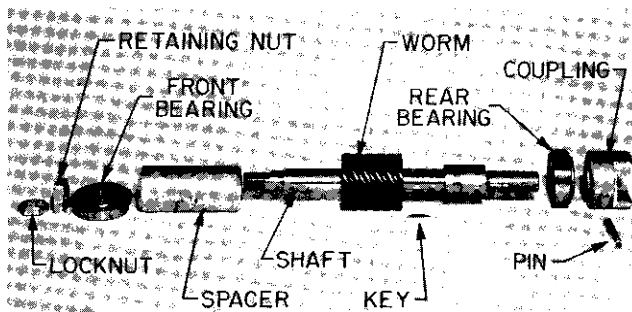

FIG. 19 – Worm Drive Shaft Group, Partially Disassembled
11. For further disassembly, refer to Figure 19, which shows a partially exploded view of the worm drive shaft and its associated parts.